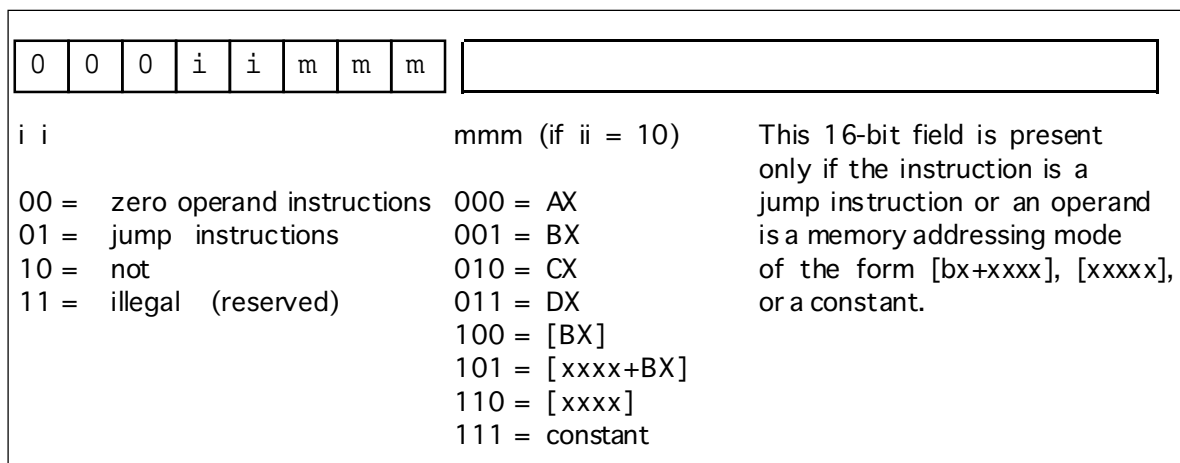
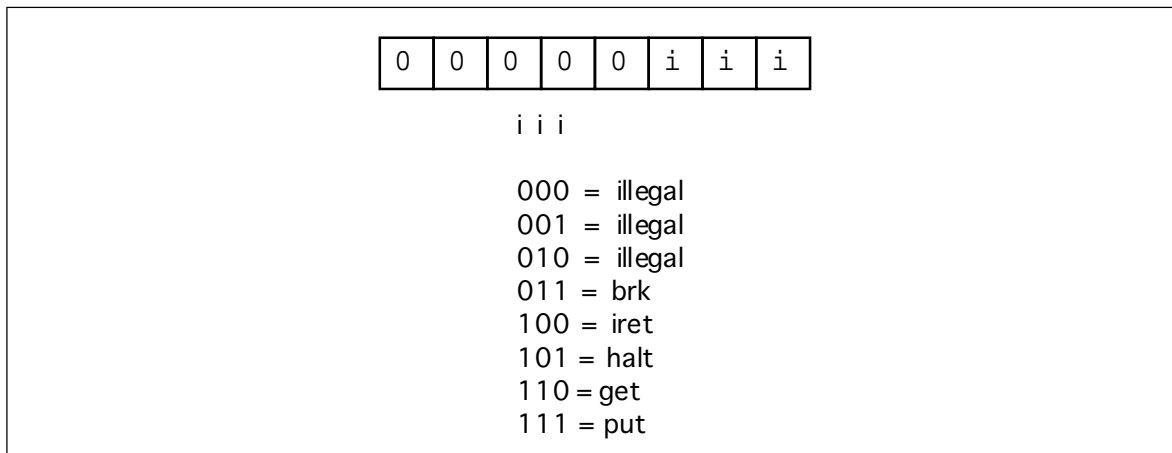
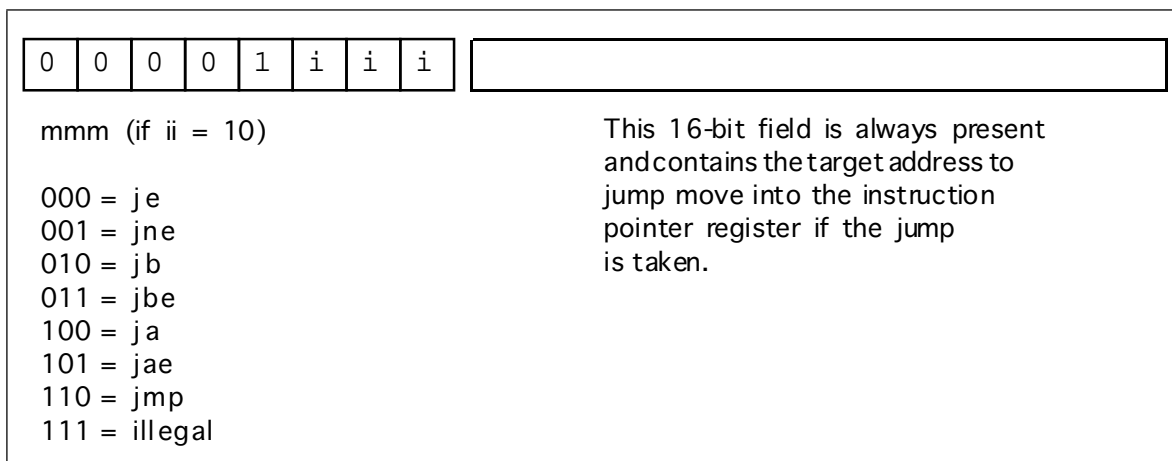

Figure 3.20 Single Operand Instruction Encodings
Figure 3.21 Zero Operand Instruction Encodings
Figure 3.22 Jump Instruction Encodings
The special opcode allows the x86 CPU to expand the set of available instructions. This opcode handles several zero and one-operand instructions as shown in Figure 3.20 and Figure 3.21.
There are four one-operand instruction classes. The first encoding (00) further expands the instruction set with a set of zero-operand instructions (see Figure 3.21). The second opcode is also an expansion opcode that provides all the *x86 jump* instructions (see Figure 3.22). The third opcode is the not instruction. This is the bitwise logical not operation that inverts all the bits in the destination register or memory operand. The fourth single-operand opcode is currently unassigned. Any attempt to execute this opcode will halt the processor with an illegal instruction error. CPU designers often reserve unassigned opcodes like this one to extend the instruction set at a future date (as Intel did when moving from the 80286 processor to the 80386).
The last group of instructions, the zero operand instructions, appear in Figure 3.21. Three of these instructions are illegal instruction opcodes. The `brk` (break) instruction pauses the CPU until the user manually restarts it. This is useful for pausing a program during execution to observe results. The `iret` (interrupt return) instruction returns control from an *interrupt service routine*. We will discuss interrupt service routines later. The `halt` program terminates program execution. The `get` instruction reads a hexadecimal value from the user and returns this value in the `ax` register; the `put` instruction outputs the value in the `ax` register.